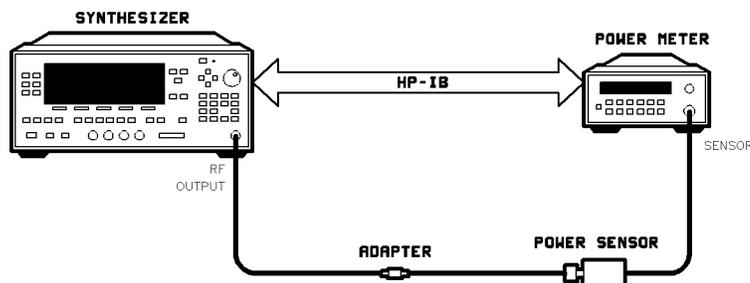

Figure 2-6. Power Flatness Test Setup
1. Turn on the equipment shown in Figure 2-6. Connect the power sensor for the frequency range being calibrated. Do not connect the power sensor to the synthesizer yet. Preset all instruments and let them warm up for at least one hour.
- b. Connect the power sensor to the synthesizer's RF OUTPUT as shown in Figure 2-6.